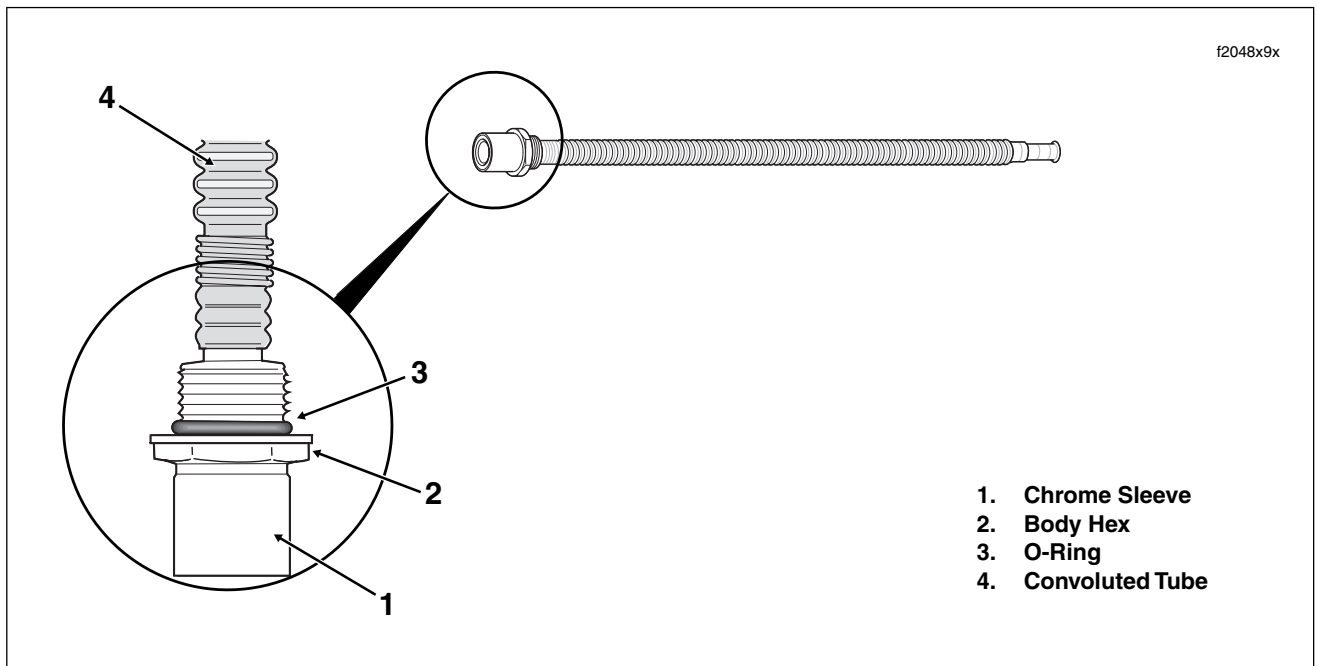

Figure 9-22. Fuel Supply Check Valve/Tube (Quick-Connect Fitting)
3. Slide a 7/8 inch deepwell socket over chrome sleeve engaging hex on quick-connect fitting. See Figure 9-22. Looking down at top of fuel tank, rotate fitting in a clockwise direction until it turns easily. Remove the fitting by hand drawing convoluted tube out through hole at bottom of fuel tank.
1. Apply a very thin film of clean H-D 20W50 engine oil to new O-ring. Slide O-ring down convoluted tube and into groove of new quick-connect fitting. See Figure 9-22.